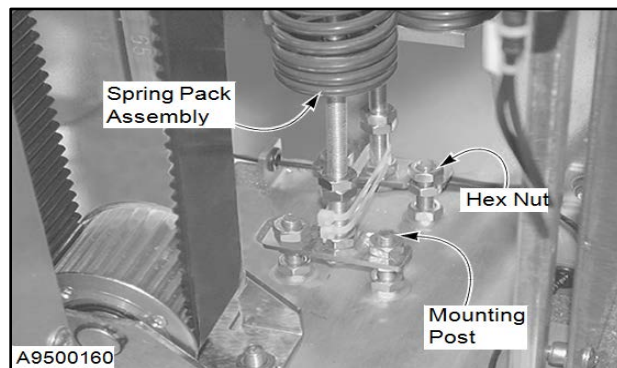

Figure 58
4. Disconnect the old spring pack assembly from the base plate. The spring pack is held in place by two hex nuts threaded onto a pair of mounting posts. (See Figure 58.)